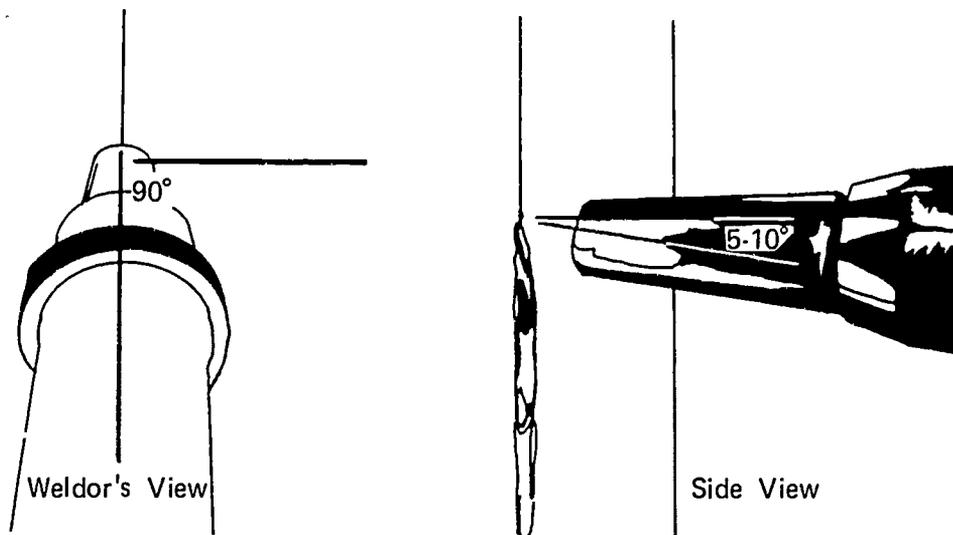

FIGURE 3
- F. Position gun straight into joint (90°) and angled 5° - 10° down from horizontal (Figure 3)